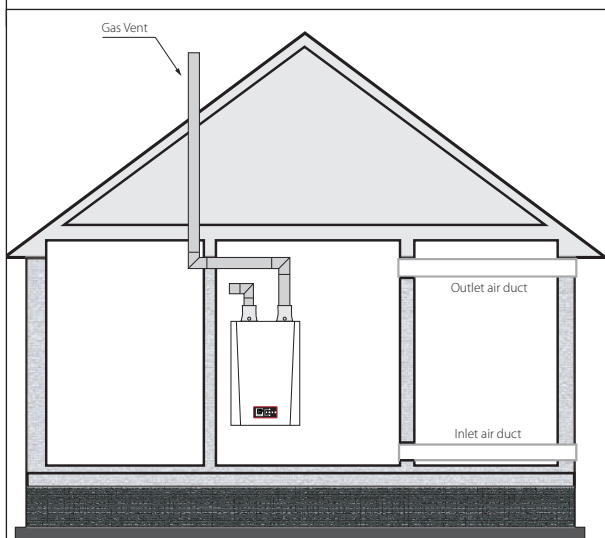

Fig. 4 - All Combustion Air from Outdoors Through Horizontal Ducts
- Where communicating with the outdoors is through horizontal ducts, each opening shall have a minimum free area of not less than 1 sq.in./2000 Btu/hr of total input rating of all equipment in the enclosure. *See Fig. 4 below.*